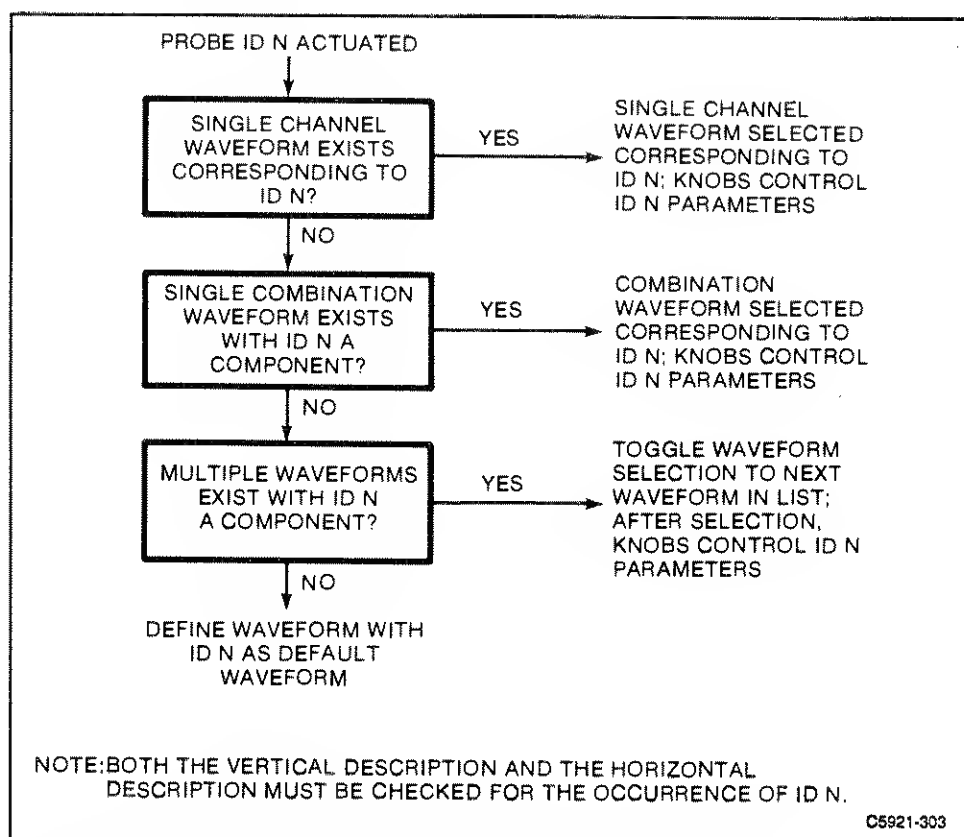

Figure 3-4. Sequence of decisions used to select a new waveform in response to probe ID button.
2. If the **Probe ID Function** (in the **Probes** pop-up menu of the Utility major menu) is set to **Waveform Select/New Wfm**, a waveform will be selected. Figure 3-4 shows the sequence of decisions used to select a new waveform.
3. If the Probe ID Function is set to **Wfm Select/New Wfm & AutoSet**, then the decisions shown in Figure 3-4 will be made, and the resulting selected waveform is autoset.